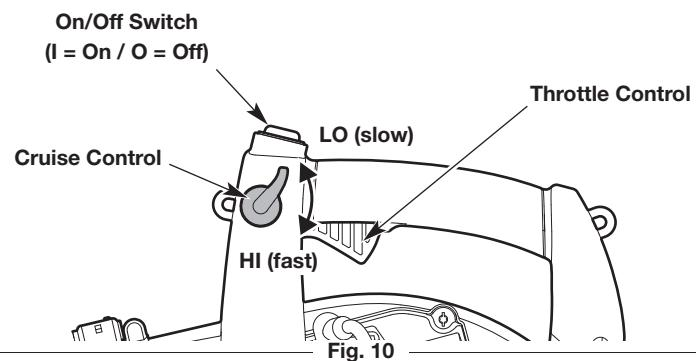

Fig. 10
**NOTE:** There is no need to turn the unit on. The On/Off switch is in the **On (I)** position at all times (Fig. 10).
4. Squeeze and hold the throttle control or move the cruise control to the **HI (fast)** position (Fig. 10).
**NOTE:** Continue to **SQUEEZE** and **HOLD** the throttle control, or keep the cruise control in the **HI (fast)** position, for ALL further steps (Fig. 10).
2. Press and hold the On/Off switch in the **Off (O)** position until the engine comes to a complete stop (Fig. 10).
- Use the cruise control to make continuous operation easier (Fig. 10).